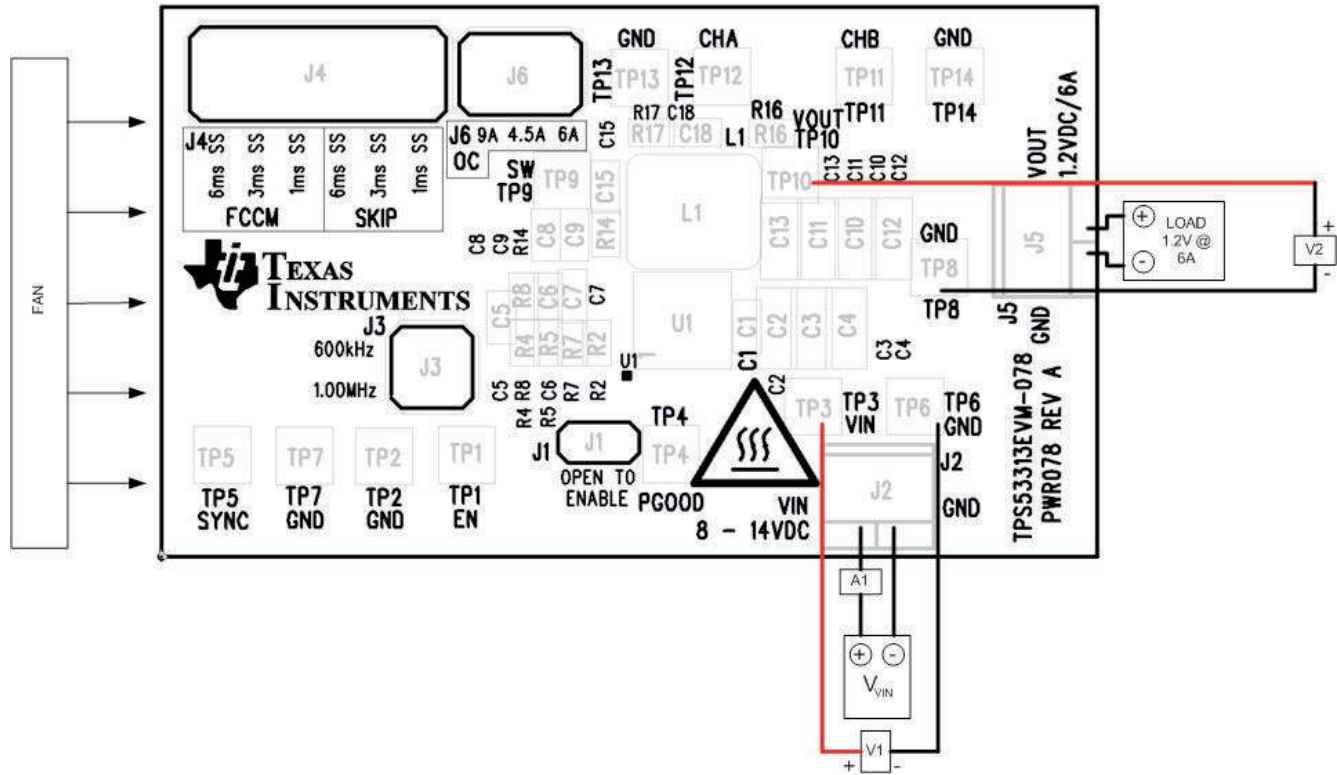

Figure 5-2. TPS53313EVM-078 Recommended Test Set Up
Voltage Source (VIN): The input voltage source, (VIN), should be a 0-V to 15-V variable DC source capable of supplying 2 A_{DC}. Connect VIN to J2 as shown in Figure 5-2.
Figure 5-2 is the recommended test set up to evaluate the TPS53313EVM-078. Working at an ESD workstation, make sure that any wrist straps, bootstraps or mats are connected referencing the user to earth ground before power is applied to the EVM.
- Prior to connecting the DC input source (VIN), it is advisable to limit the source current from VIN to 2 A maximum. Make sure VIN is initially set to 0 V and connected to J2 as shown in Figure 5-2.
- Place a fan as shown in Figure 5-2 and turn on, making sure air is flowing across the EVM.
1. Set up EVM as described in Section 5 and Figure 5-2.